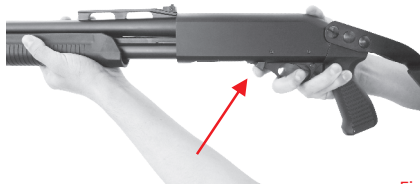

Fig.26
5. Press release button to unlock the bolt (Fig.26).